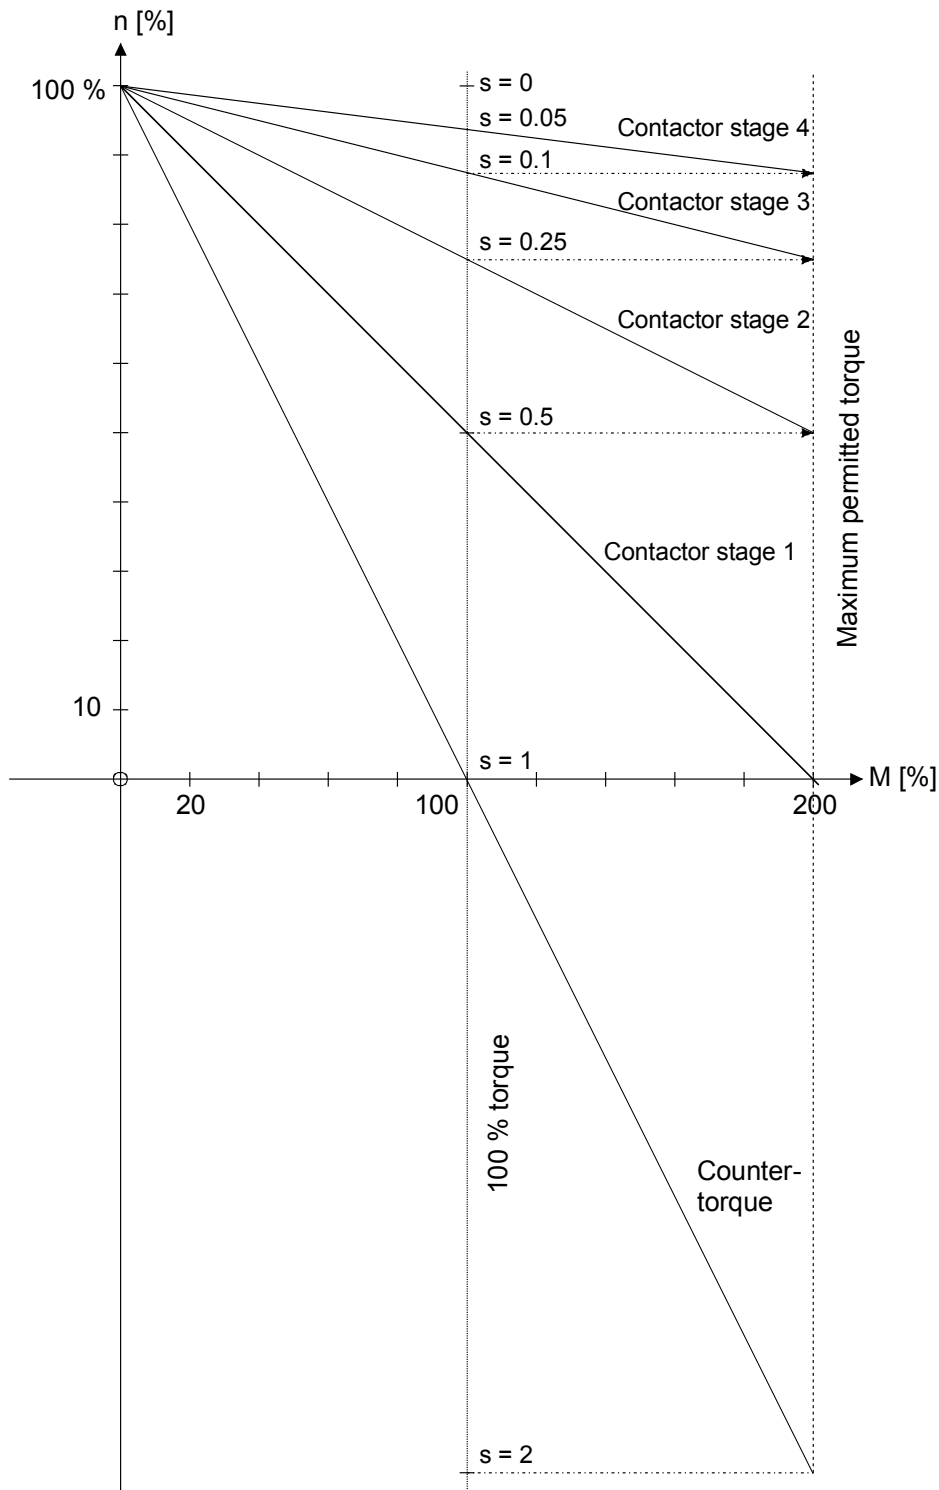

Figure 2, Speed-torque diagram with 4 contactor stages
Notes to Figure 2
- s: slip, see Figure 2, speed-torque diagram.